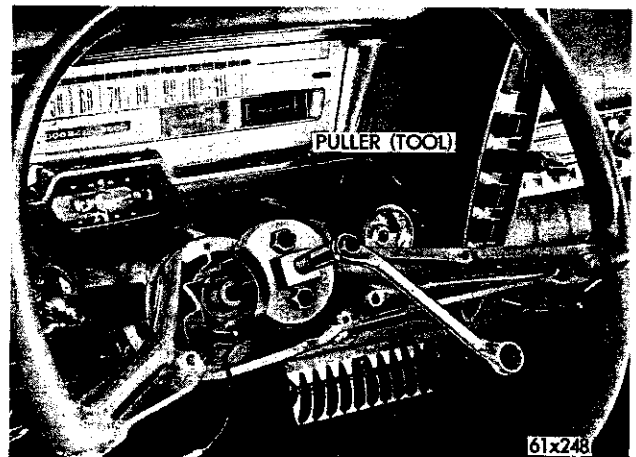

Fig. 113—Removing the Steering Wheel (Typical)
- (6) Loosen the steering wheel nut several turns and install the Steering Wheel Puller Tool C-3428 (Fig. 113) and remove the steering wheel nut and steering wheel.